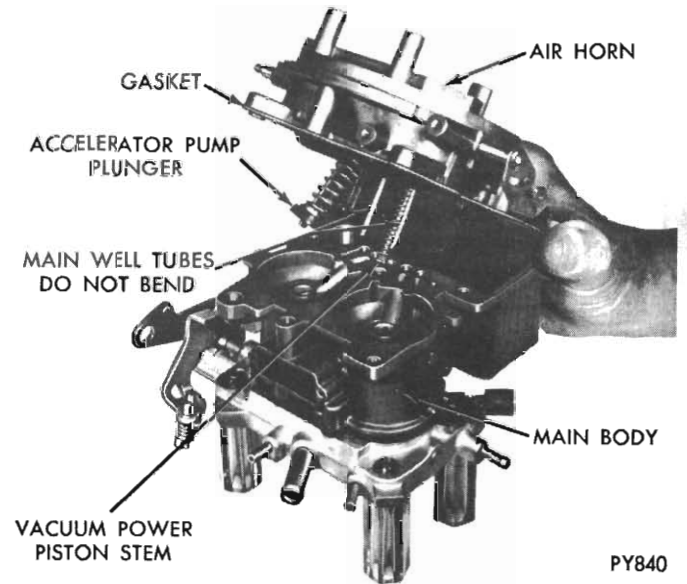

Fig. 6 - Removing or installing air horn
(1) Place carburettor on Repair Stand E14C5 or similar. (This tool is used to protect throttle valves from damage and to provide a suitable base for working.) (Fig. 6).
**NOTE:** Use extreme care when handling air horn so as not to bend or damage main well tubes (Fig. 6).
Install attaching screws (long screw in centre) and tighten to 25 inch pounds (Fig. 6).